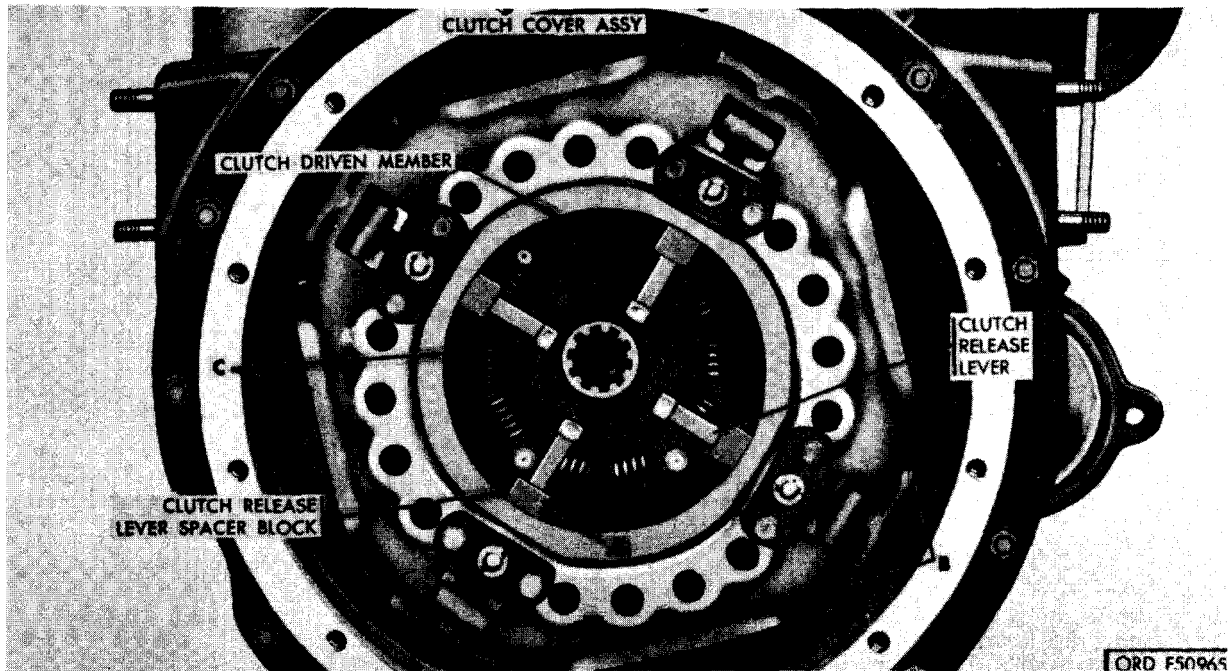
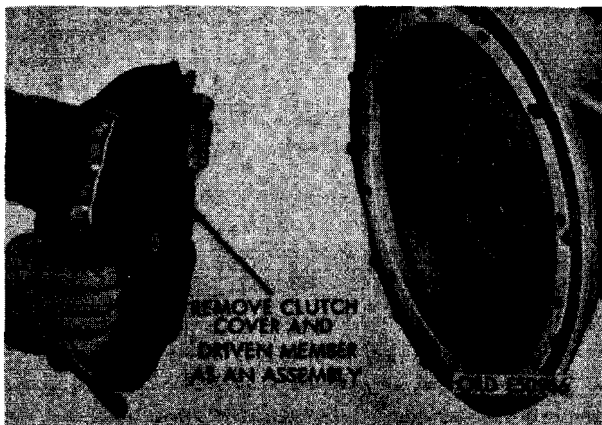

FIGURE 88. CLUTCH ASSEMBLY - INSTALLED VIEW,
FIGURE 89. REMOVING CLUTCH COVER ASSEMBLY AND DRIVEN MEMBER ASSEMBLY.
- (1) Figure 88. (A) Depress clutch release levers, one at a time, and place a clutch release lever spacer block (fig. 35) between lever and clutch cover as shown. (B) Remove eight 3/8 x 15/16 cap screws and 3/8-inch lock washers securing clutch cover assembly to flywheel. (C) Remove clutch cover assembly and driven member assembly as shown in figure 89.